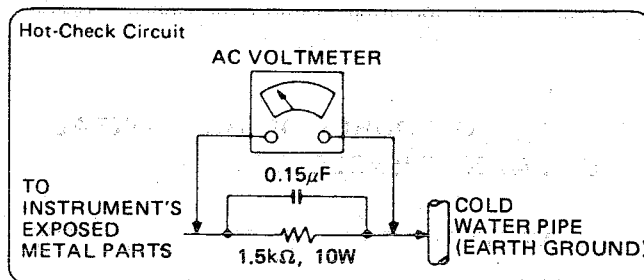

Fig. 1
## LEAKAGE CURRENT HOT CHECK (See Fig. 1)
2. Connect a 1.5 k $\Omega$ , 10 watt resistor, in parallel with a 0.15  $\mu$ F capacitor, between each exposed metallic part on the set and a good earth ground such as a water pipe, as shown in Fig. 1.